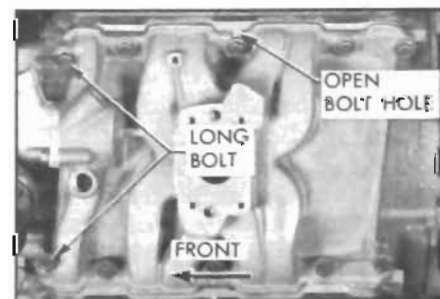

Figure 2-18—V-6 Intake Manifold
17. Install manifold attaching bolt in open bolt hole as shown in Figure 2-18. Open bolt hole is held to close tolerances and the bolt in this location serves to locate the manifold fore and aft.
18. Install remaining manifold to cylinder head bolts. Longer bolts at forward location. Torque bolts alternately and evenly to 25-30 ft. lbs. See Figure 2-18.